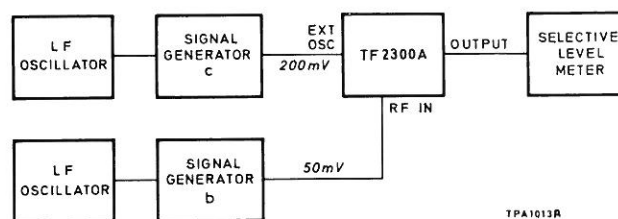

Fig. 4.5 F.M. distortion measurement
- (1) Set up the equipment as shown in Fig. 4.5. Adjust c to give a c.w. output of 200 mV at any convenient frequency F_{c1} . Adjust b to give a c.w. output of 50 mV at frequency ($F_{c1} - 1.5$ MHz).
- (2) On the modulation meter set the Function switch to TUNE and the oscillator RANGE switch to EXT. Adjust the frequency of c for maximum reading on the TF 2300A meter and adjust the TF 2300A LEVEL control for a reading within the black arc.